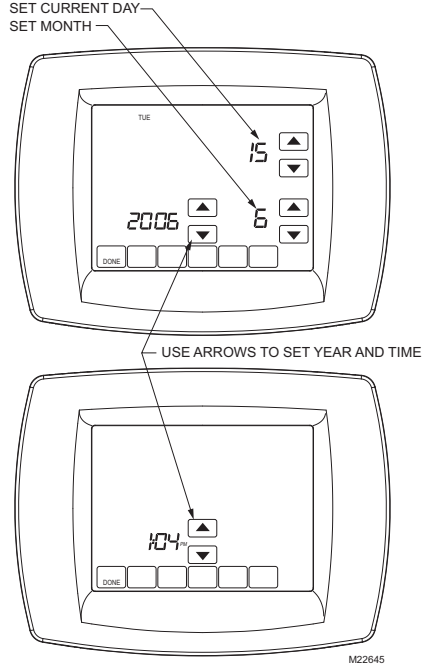

Fig. 6. Control Time and Date Settings
The Comfort Control is designed to automatically keep the current time and day in memory for up to ten years under normal use once calendar is set. When the Comfort Control is powered, the display is ready for the calendar date to be entered. See Figure 6.
1. Use the arrow keys to set the Year, Month and Day, as shown in Figure 6.
3. Use the arrow keys to set the current time. See Figure 6.